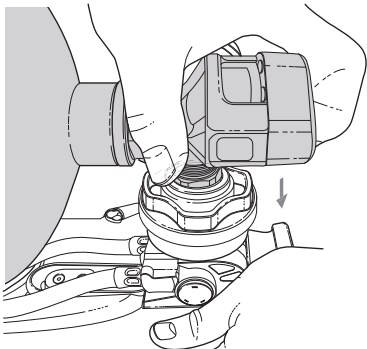

Fig. 34 Aligning the cylinder valve
3. Ensure that male adapter on the cylinder valve port (1) and the bore of the pressure reducer (2) are clean and undamaged.
8. Push the cylinder valve port into the bore of the hand wheel until a click is heard (Fig. 34).